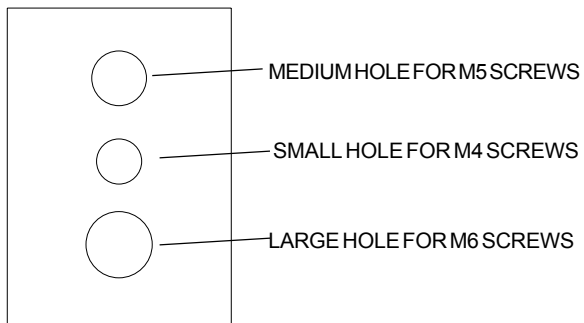

fig 2.2
- Use the corresponding hole in the multi-washer that matches your screw size as shown in fig 2.2.